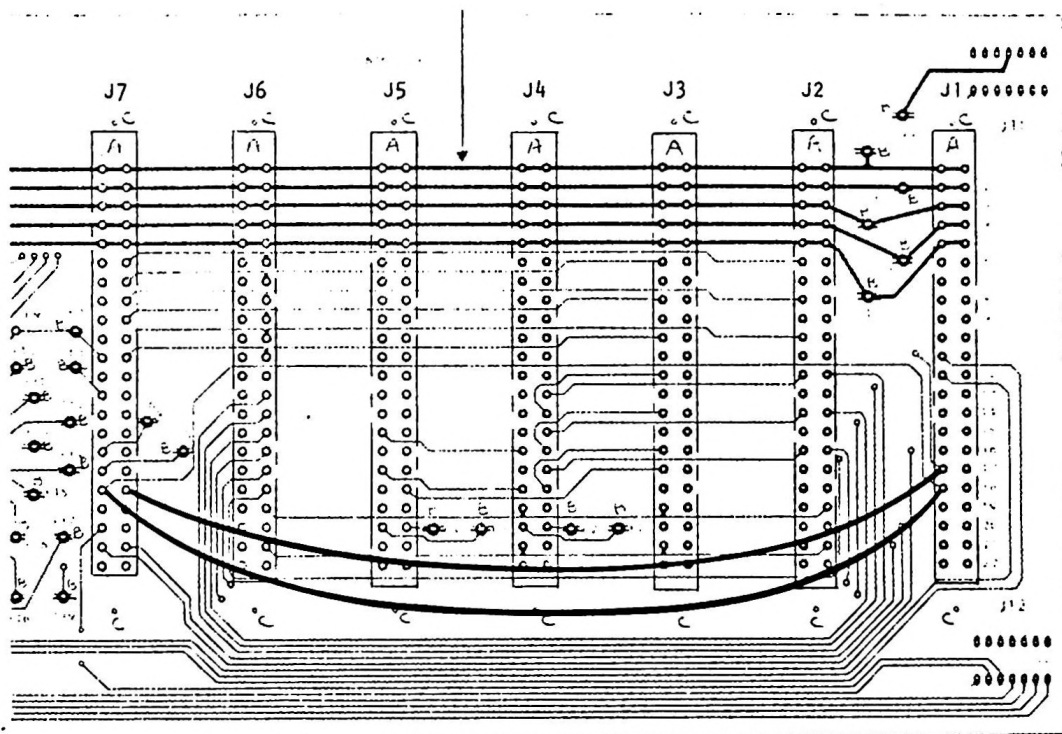

Fig. 3: Motherboard Modification
- l) On the motherboard, tack solder the supplied 30-gauge insulated hook-up wire from pin 7-18 to pin 1-U (see Fig. 3).
- m) On the motherboard, tack solder the supplied 30-gauge insulated hook-up wire from pin 7-V to pin 1-V (see Fig. 3).